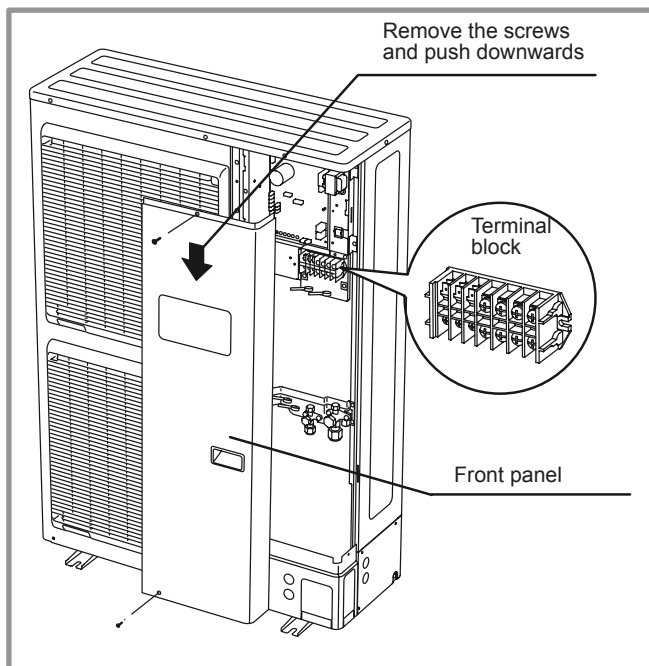

**figure 36 - Finalisation of connection to single phase outdoor unit**
- Use the mounting plate to hold the cables against the insulating plate (**figure 36**).